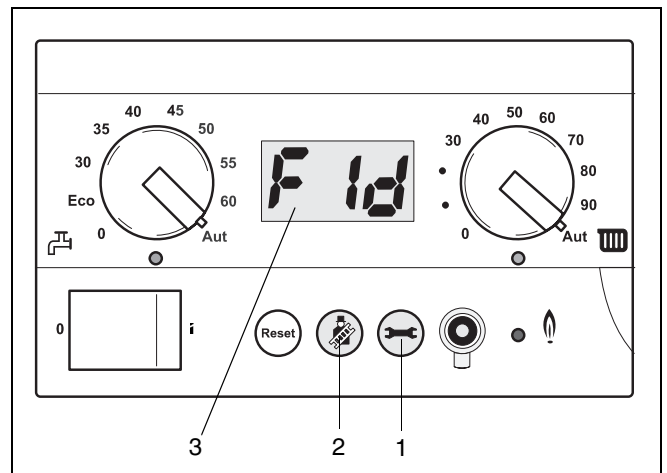

fig. 40 Pump run over time to 24 hours
When there is a freezing hazard set the pump run over time to 24 hours (F1d) (→ fig. 40, item 3).
- Press the chimney sweep button and the service button (→ fig. 40, item 2 and 1) simultaneously until "L ---" appears in the display.
- Confirm the selection by pressing the service button (→ fig. 40, item 1).